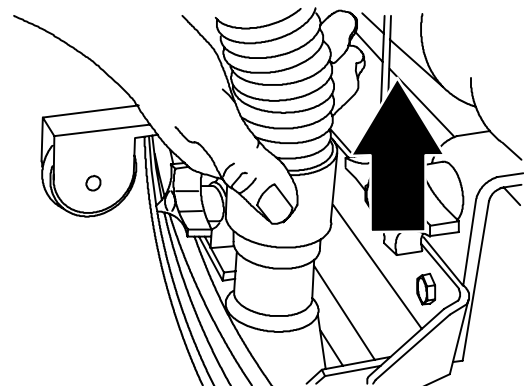

FIG. 35
2. Disconnect squeegee vacuum hose from squeegee assembly (Figure 35).